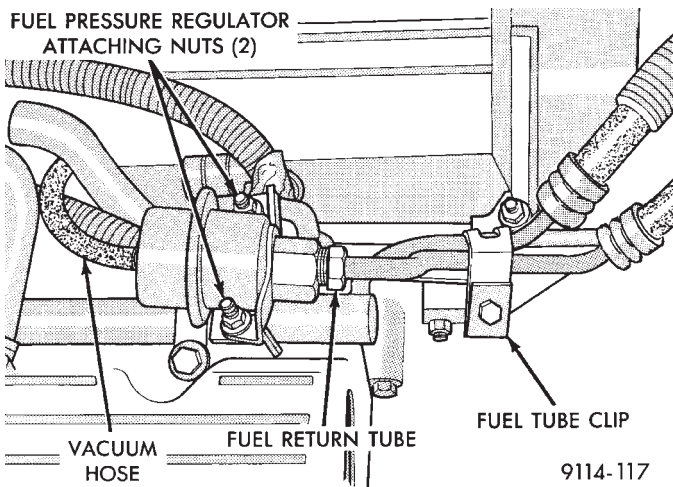

Fig. 13 Servicing Fuel Pressure Regulator
- (1) Perform fuel system pressure release procedure.
- (2) Disconnect negative cable from battery.
- (3) Disconnect vacuum hose from fuel pressure regulator (Fig. 13).
(4) Using 2 open end wrenches, one on the fuel pressure regulator and the other on the fuel return tube nut, loosen tube nut. **The 2 wrenches must be used, otherwise damage will occur (Fig. 13).**
- (1) Lubricate O-ring with a drop of clean engine oil. Install O-ring into the receiver cup on fuel rail.
- (2) Install mounting nuts. Tighten nuts to 7 N•m (65 in. lbs.) torque.
(3) Connect fuel return tube to pressure regulator. Using a wrench to hold the fuel pressure regulator, tighten the nut to 28 N•m (250 in. lbs.) torque (Fig. 13).
(4) Connect vacuum hose to pressure regulator. Replace clamp.
(5) Connect negative cable to battery.